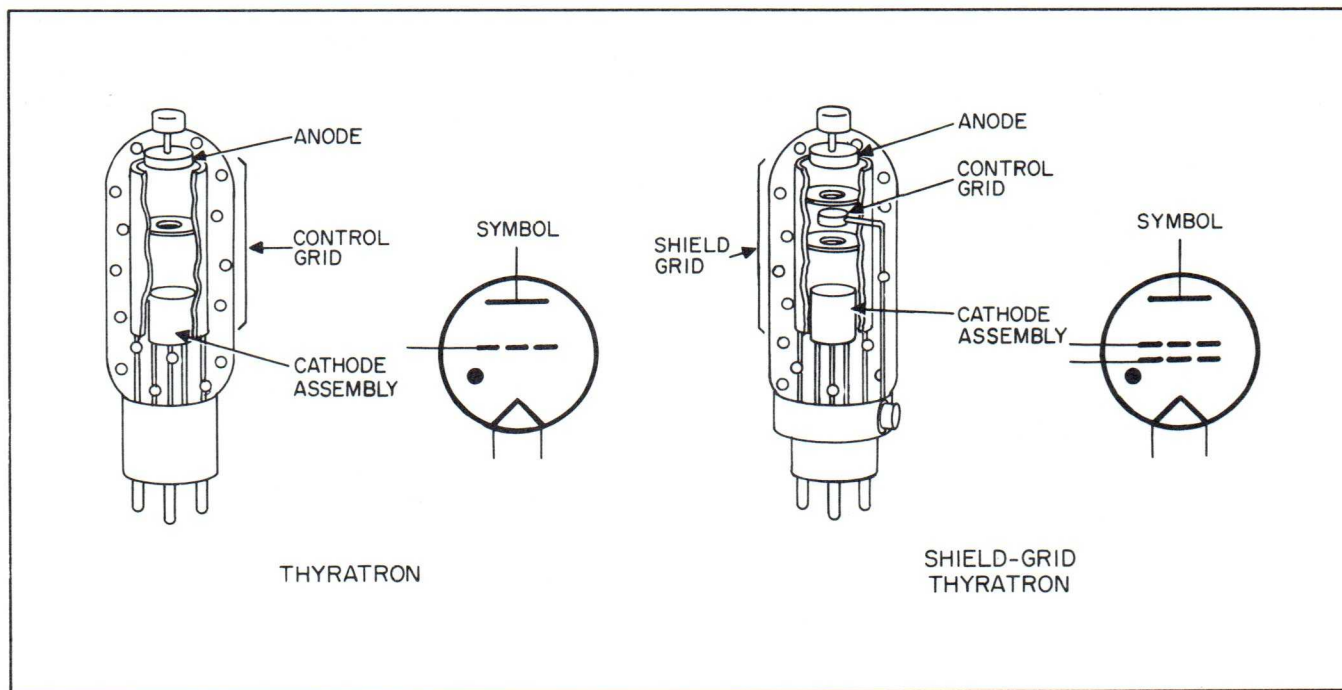

Figure 14. Typical Thyatron
b. The basic elements of thyratrons and rectifiers are shown in figures 14 and 15. Both classes of tubes contain (1) a cathode (electron emitting element), (2) an anode (electron collecting element), (3) a gas (to assist current conduction through the space), and (4) an envelope. The latter is usually glass, although metal envelopes are used in larger tubes. The cathodes in most gaseous tubes are directly heated, i.e., the electron emitting material is applied directly to the heating element or filament.
(1) High current carrying capacities for a given physical size.